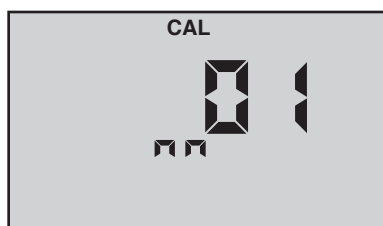

Figure 11
7. Press  to accept the change (new month), (see Figure 11, pg. 40).